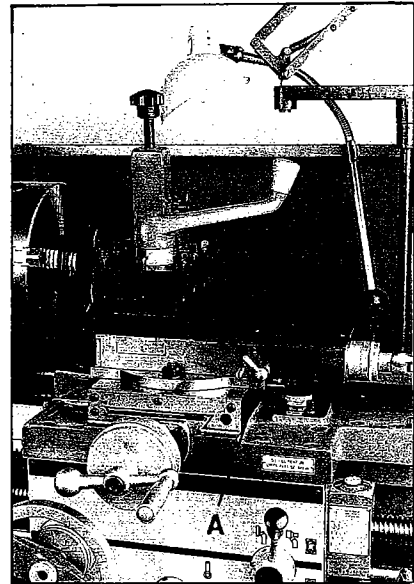

Fig. 15
6. **Compound Lock** (A, Fig. 15) - lever located on left side of compound slide. Turn clockwise to lock and counter-clockwise to unlock.